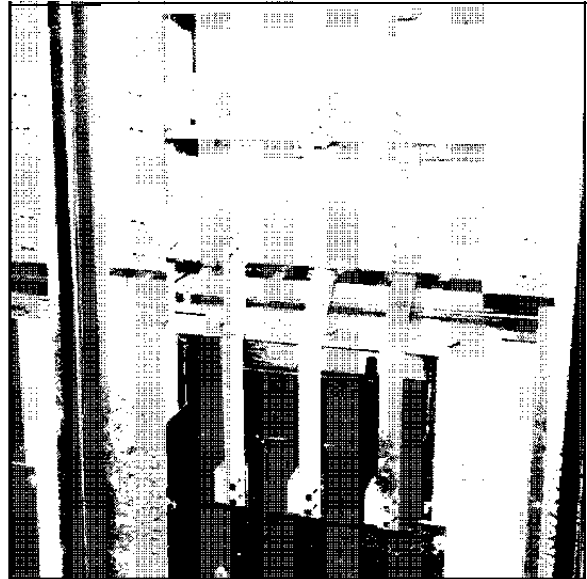

Fig. 55 Check Electrical Joints
- Examine all visible terminals and joints for signs of overheating (Fig. 55). An overheated connection will appear discolored. Be suspicious of any conducting joint which has a darker color than other similar joints.